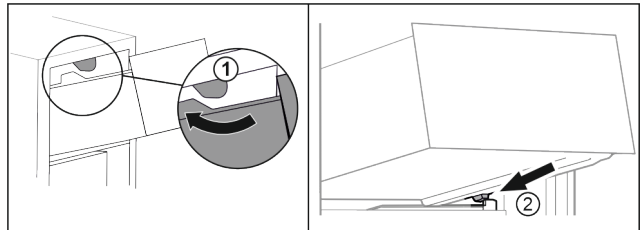

Fig. 27
- ▶ Guide drawer around the upper stoppers. Fig. 27 (1)
- ▶ Place drawer at an angle behind the lower stoppers onto moulded rib. Fig. 27 (2)